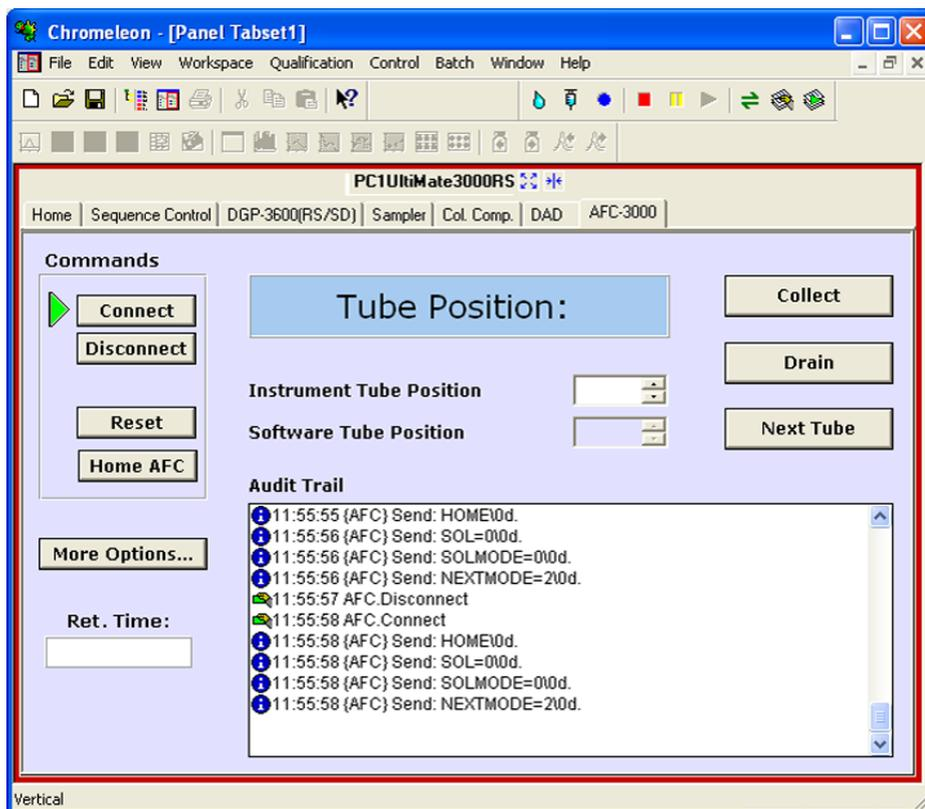

Fig. 17: AFC-3000 Control Panel
3. On the **Panel Tabset** for your timebase, click the **AFC-3000** tab page (→ Fig. 17).